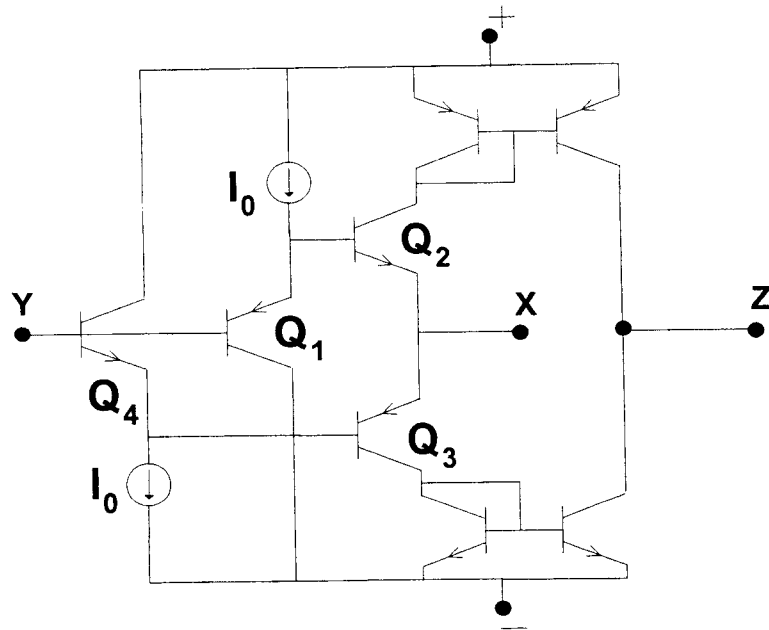

Figure 6.2
- e. Figure 6.2 illustrates a practical current-conveyor.
- i. Draw an elementary current-conveyor and compare its properties with those of Figure 6.2 . [2]
- ii. Suggest and draw a new current-conveyor of reduced offset. What are the new topology trade-offs with respect to the current-conveyor of Figure 6.2 ? [2]